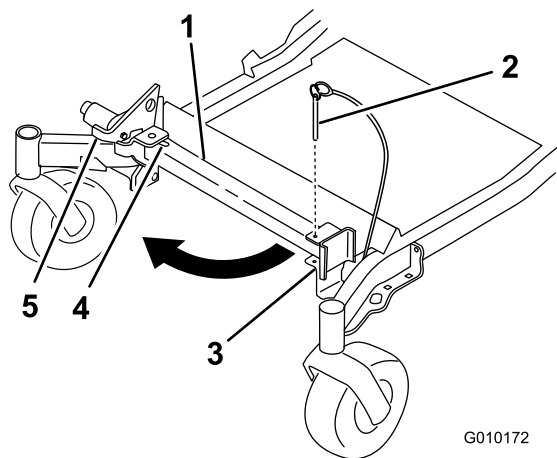
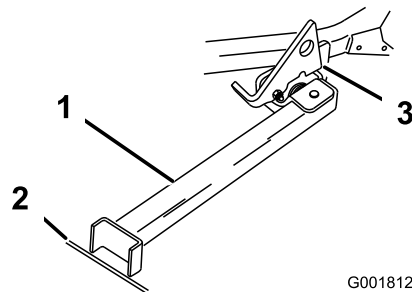

Figure 36
Figure 37
2. Remove the bracket pin (Figure 36).
3. Raise the latch. Swing the stand foot out front and slide stand toward machine, into the bottom of slot (Figure 36 and Figure 37).
4. Set the foot of stand on the ground and rest the latch on the pivot tab (Figure 37).
- Note:** For best results, place the foot of stand into seams in sidewalks or into the turf (Figure 37).
6. Drive onto the stand. Stop when the latch drops over the tab into the locked position (Figure 37). Once onto the stand, engage the parking brake and turn off the engine.
5. Return the stand to its rest position (Figure 36).